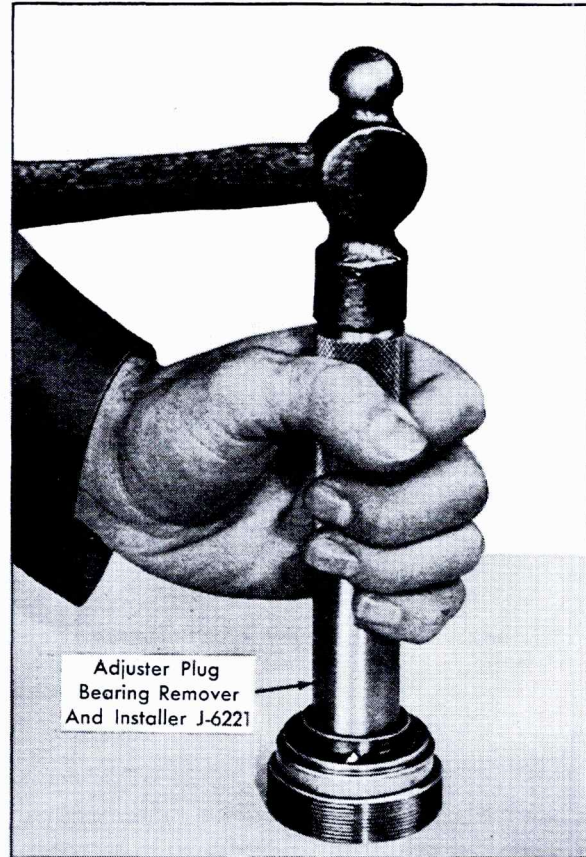

Fig. 9-28 Removing and Installing Adjuster Plug Bearing
1. Inspect needle bearing in adjuster plug. If rollers are broken or pitted, remove needle bearing by pressing out from thrust bearing end, using Adjuster Plug Bearing Remover and Installer, J-6221, Fig. 9-28.
1. If adjuster plug needle bearing was previously removed, install new needle bearing on Tool J-6221, with letters on bearing against tool. Position bearing and tool over thrust bearing end of plug and drive bearing into plug, Fig. 9-28. End of bearing must be flush with bottom surface of stub shaft seal bore.